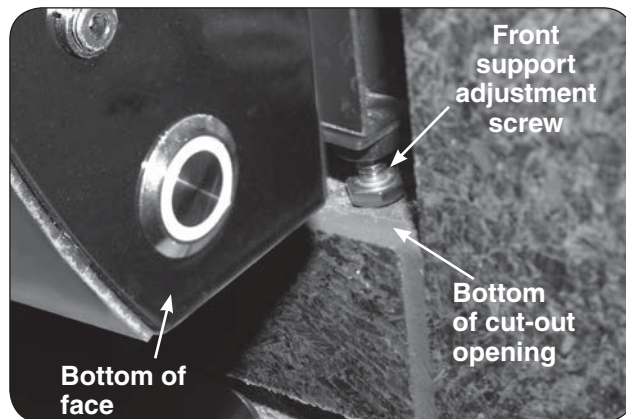

Fig. 22-1 Front support adjustment screws
2. Insert the rear pointed-end of the lifter between the same two rods (Fig. 22-1, B) and carefully lift the cooking grid and place onto the front and rear grid rests of the grill (see Fig. 22-2). Repeat for all other cooking grids.